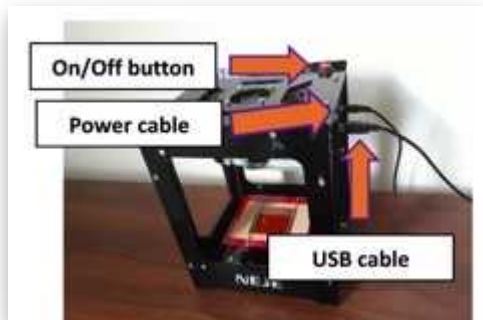

Figure 2B
e. Before turning on the laser, confirm that the power and the USB cables (shown in *figure 2B*) are connected to the electricity supply and the computer, respectively.
f. Press the red button at the top of the laser (shown in *figure 2B*) to turn it on and verify that the laser beam is set in the center of the kapton film. If not centered, turn off the laser, move the substrate and verify again by turning the laser on (repeat until centered).